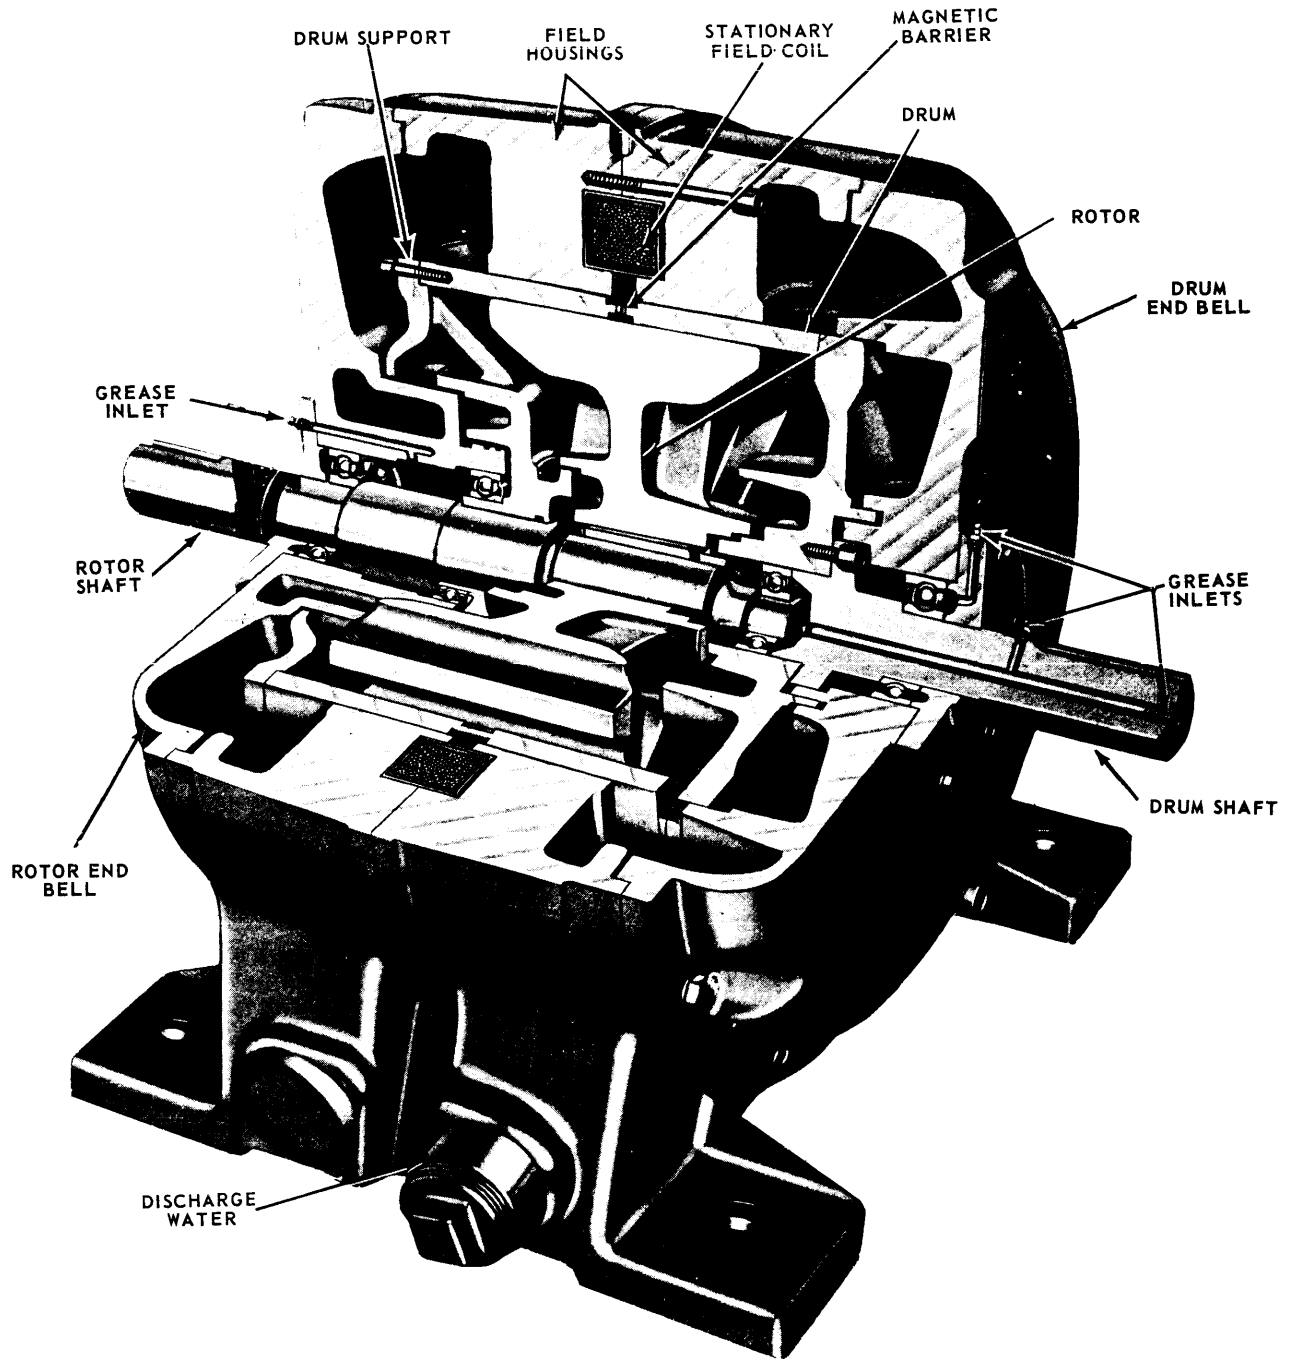

Figure 1-4. Cutaway View, Water Cooled Clutch
(3) Clutch. - A Liquid-Cooled Stationary Field Coupling is employed as a clutch between the diesel engine and the flywheel. The clutch utilizes the eddy-current principle to transmit rotary motion. The clutch consists of three assemblies: See figure 1-4.